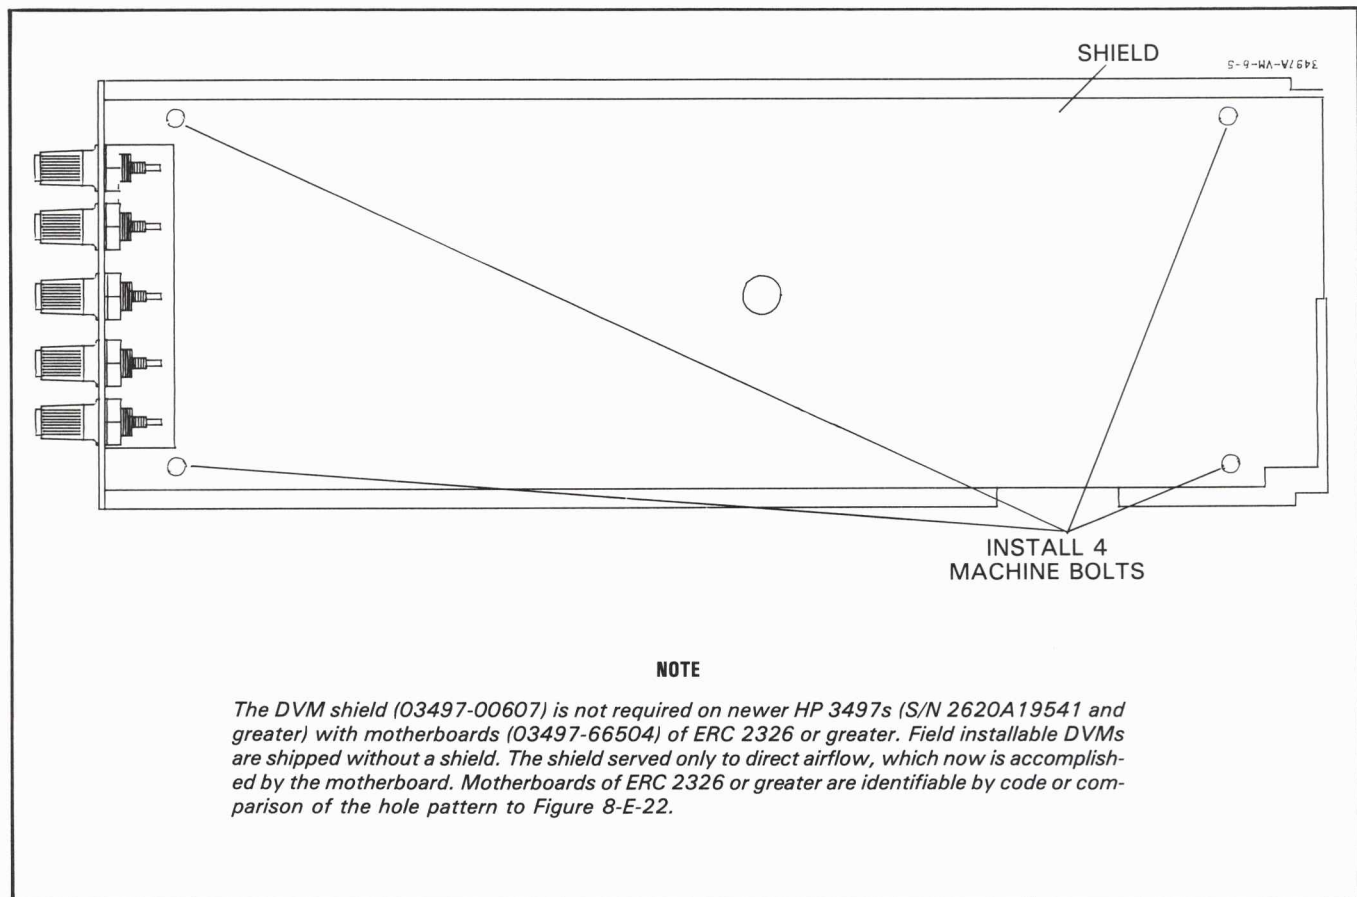

Figure 2-8. Voltmeter Installation
f. Install the DVM shield, if required, according to the instructions in Figure 2-8.